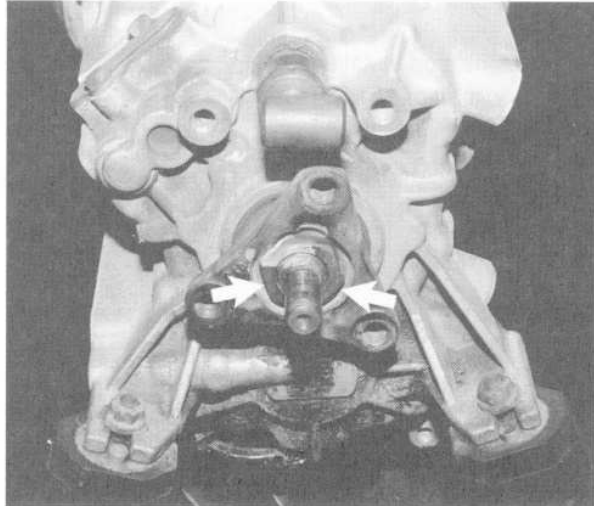

Fig. 2. Output flange lockplate tabs (arrows). Pry off lockplate by bending tabs out of grooves.
- Bend back and remove nut lockplate. See Fig. 2.